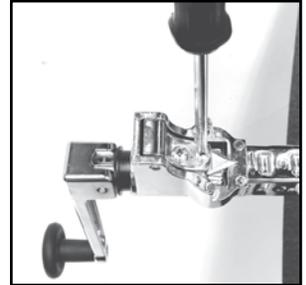

Figure 14
2. Remove the two screws holding the knife blade. (Figure 14)